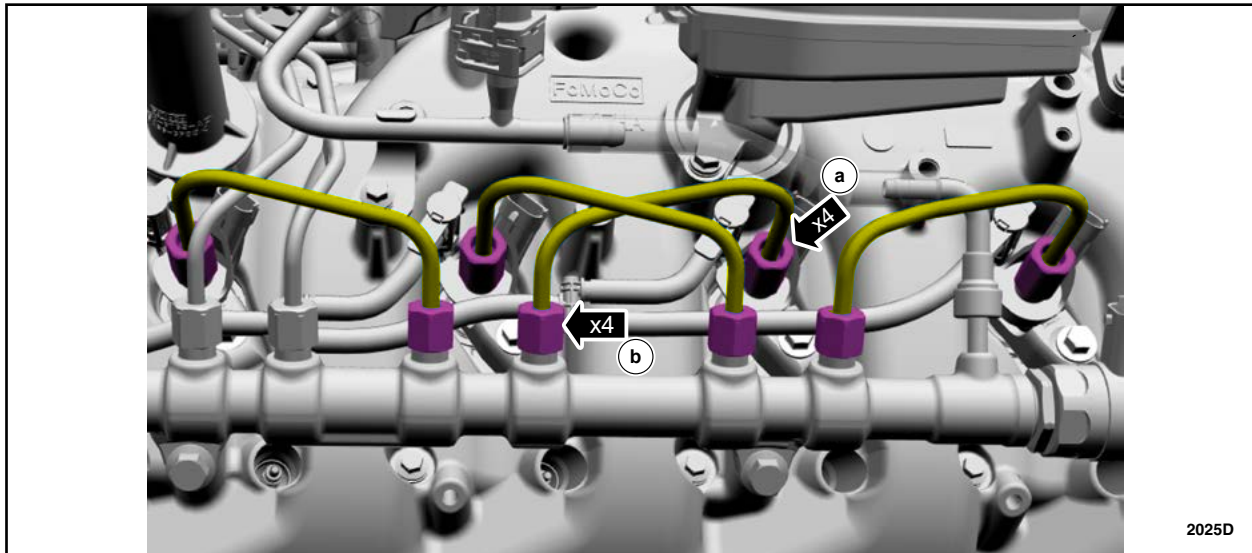

FIGURE 4
- Position aside the LH fuel injector supply tubes. See Figure 4.
- a. Loosen the four (4) fuel injector supply tube fittings at the injectors.
- b. Fully remove the four (4) fuel injector supply tube-to-fuel rail tube fittings and position aside all four tubes.